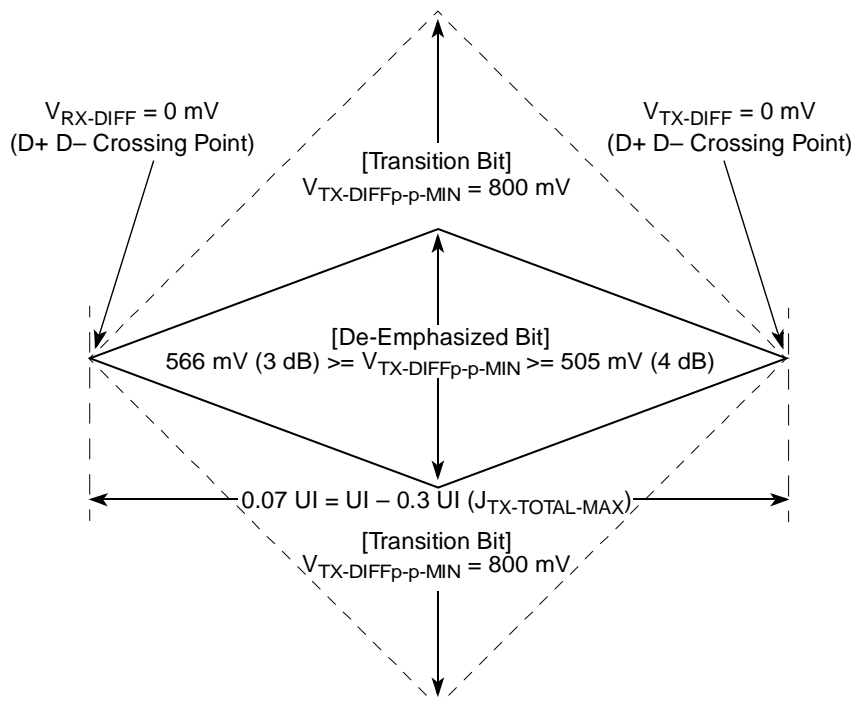
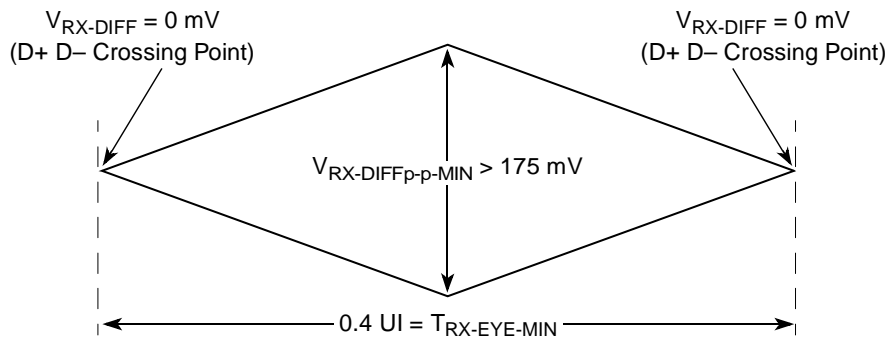
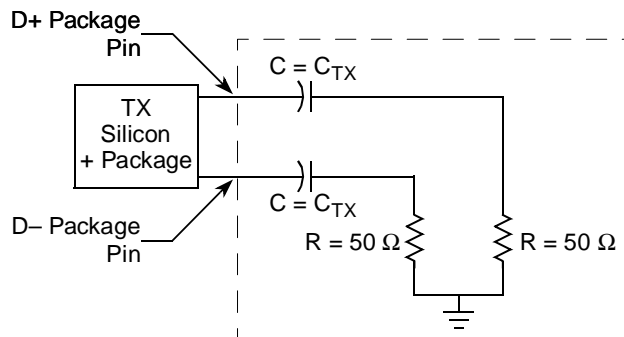

Figure 48. Minimum Transmitter Timing and Voltage Output Compliance Specifications
Figure 49. Minimum Receiver Eye Timing and Voltage Compliance Specification
Figure 50. Compliance Test/Measurement Load
2. Specified at the measurement point into a timing and voltage compliance test load as shown in Figure 50 and measured over any 250 consecutive TX UIs. (Also refer to the transmitter compliance eye diagram shown in Figure 48.)
4. The transmitter input impedance shall result in a differential return loss greater than or equal to 12 dB and a common mode return loss greater than or equal to 6 dB over a frequency range of 50 MHz to 1.25 GHz. This input impedance requirement applies to all valid input levels. The reference impedance for return loss measurements is 50 Ω to ground for both the D+ and D– line (that is, as measured by a vector network analyzer with 50- Ω probes—see Figure 50). Note that the series capacitors C_{TX} is optional for the return loss measurement.
5. Measured between 20%–80% at transmitter package pins into a test load as shown in Figure 50 for both $V_{\text{TX-D+}}$ and $V_{\text{TX-D-}}$.
The TX eye diagram in Figure 48 is specified using the passive compliance/test measurement load (see Figure 50) in place of any real PCI Express interconnect +RX component.
2. Specified at the measurement point and measured over any 250 consecutive UIs. The test load in Figure 50 should be used as the RX device when taking measurements (also refer to the receiver compliance eye diagram shown in Figure 49). If the clocks to the RX and TX are not derived from the same reference clock, the TX UI recovered from 3500 consecutive UI must be used as a reference for the eye diagram.
4. The receiver input impedance shall result in a differential return loss greater than or equal to 15 dB with the D+ line biased to 300 mV and the D- line biased to -300 mV and a common mode return loss greater than or equal to 6 dB (no bias required) over a frequency range of 50 MHz to 1.25 GHz. This input impedance requirement applies to all valid input levels. The reference impedance for return loss measurements for is 50 Ω to ground for both the D+ and D- line (that is, as measured by a vector network analyzer with 50- Ω probes—see Figure 50). Note: that the series capacitors CTX is optional for the return loss measurement.
The RX eye diagram in Figure 49 is specified using the passive compliance/test measurement load (see Figure 50) in place of any real PCI Express RX component.
Note: In general, the minimum receiver eye diagram measured with the compliance/test measurement load (see Figure 50) will be larger than the minimum receiver eye diagram measured over a range of systems at the input receiver of any real PCI Express component. The degraded eye diagram at the input receiver is due to traces internal to the package as well as silicon parasitic characteristics which cause the real PCI Express component to vary in impedance from the compliance/test measurement load. The input receiver eye diagram is implementation specific and is not specified. RX component designer should provide additional margin to adequately compensate for the degraded minimum receiver eye diagram (shown in Figure 49) expected at the input receiver based on some adequate combination of system simulations and the return loss measured looking into the RX package and silicon. The RX eye diagram must be aligned in time using the jitter median to locate the center of the eye diagram.
The reference impedance for return loss measurements is 50. to ground for both the D+ and D- line (that is, as measured by a vector network analyzer with 50-Ω probes—see Figure 50). Note that the series capacitors, CTX, are optional for the return loss measurement.
The AC timing and voltage parameters must be verified at the measurement point, as specified within 0.2 inches of the package pins, into a test/measurement load shown in Figure 50.